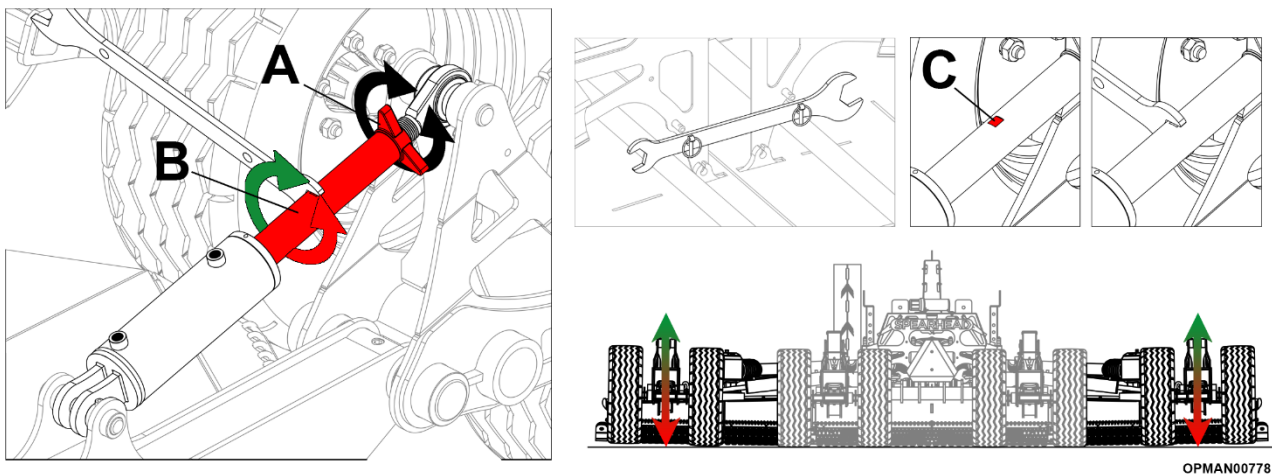

Figure 4.24 – Left To Right Machine Levelling Wing Axle Adjustment
4.7.2.3 Loosen the locking nuts; see Figure 4.24 (A) on the wing.
4.7.2.4 Turn the rod of the ram, see Figure 4.24 (B) utilising the spanner provided with the machine found on the rear of the hose mount anticlockwise to raise the rear axle and clockwise to lower the rear axle. The hydraulic ram features a flat proportion in order to use the spanner; see Figure 4.24 (C). The machine should be set at 12.5mm – 25mm (1/2" to 1") higher at the outside of the wing to the inside.
4.7.2.5 Once set at the correct height tighten the locking nuts again; see Figure 4.24 (A).